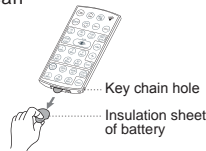

FIG.1
- A battery is included, please remove the Insulation sheet before use. The Key chain hole is designed for easy carrying. (See FIG.1).